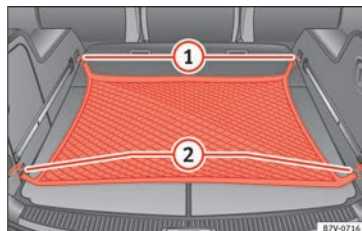

Fig. 172 In the luggage compartment: net used on secured baggage
- Hook the baggage net into the fastening rings **» Fig. 172** ① and ②.
- Carefully unhook the baggage net hooks from the fastening rings **» Fig. 172** ①. **»**
- Carefully unhook the baggage net hooks from the fastening rings » Fig. 172 ②.